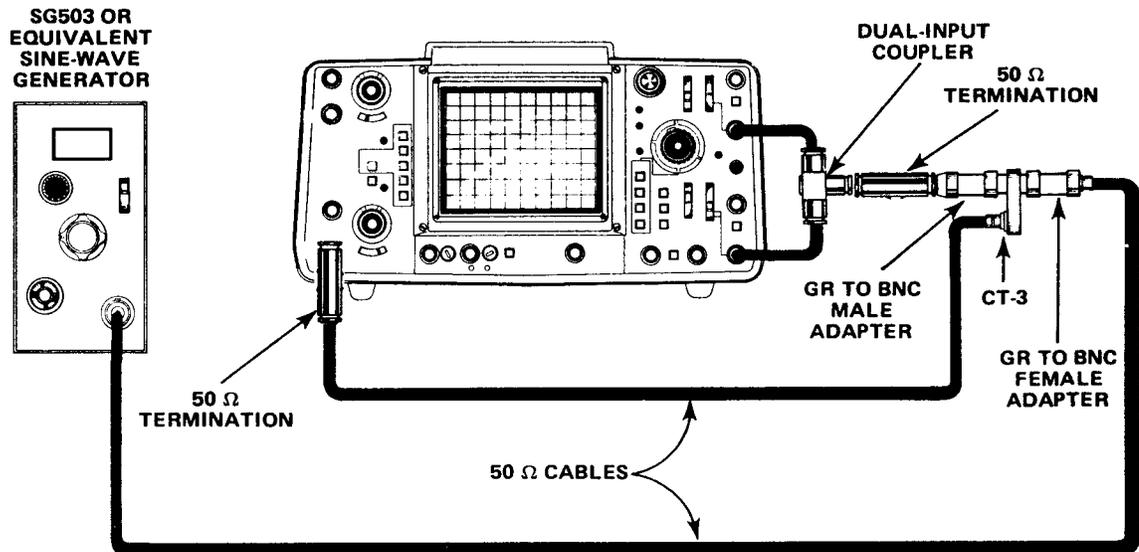

Figure 5-21. External trigger centering setup.
(15) Set CH 1 VOLTS/DIV to 5 m and A AND B TIME/DIV to 5 μ s.
(16) Repeat step (12) above.
(17) Disconnect the generator.
n. External Trigger Centering (Figures 5-21 and 5-22).
(1) Set controls as follows: